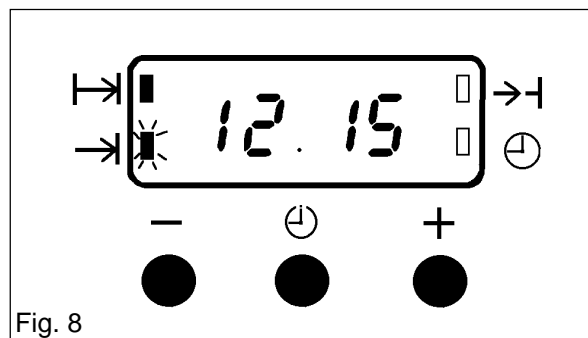

Fig. 8
- v) To set the 'End Time'. Press the Selector Control button until the 'End Time' (→) flashes. Press the increase control (+) until the required stop time is displayed, e.g. 12.15 p.m. as Fig. 8. If necessary depress the decrease control (-) until the correct time interval is achieved.